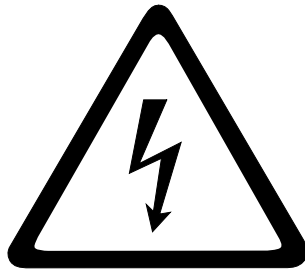

Figure 1. Dangerous voltage symbol
- Figure 1. Dangerous voltage symbol **14**
The symbol shown in Figure 1 denotes dangerous voltage. The Nokia MetroSite EDGE Base Station is labelled with this symbol.